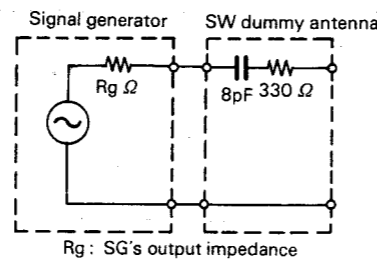

Fig. 9
6. SW dummy antenna shows Figure 9.